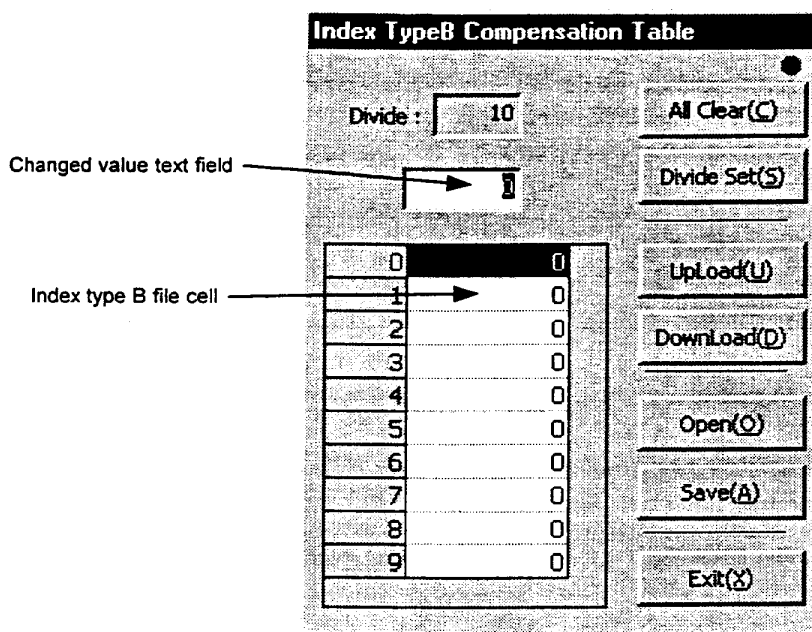

Figure 7.46 "Index TypeB Compensation Table" dialog box
Click "Table Edit (E)" in the "Index Type B" dialog box to display the "Index TypeB Compensation Table" dialog box (see Figure 7.46).